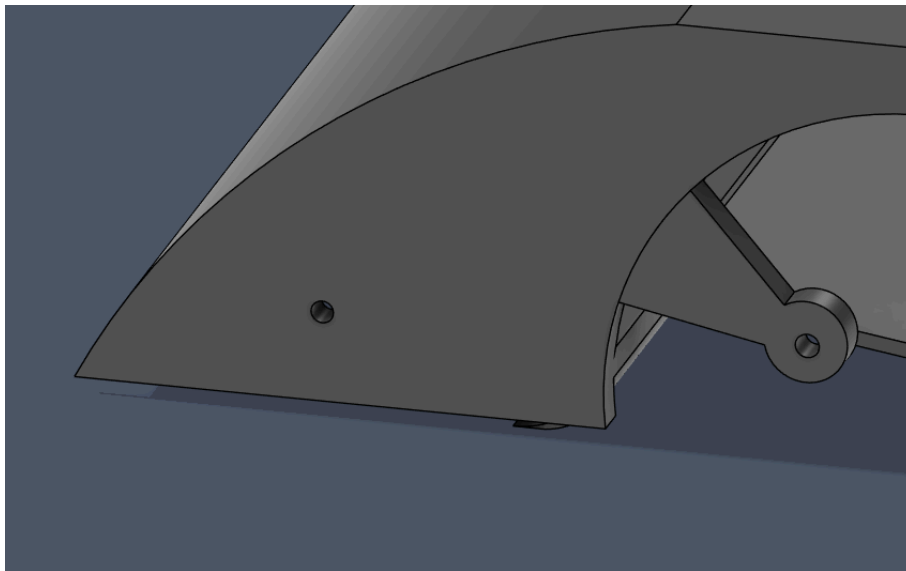

Figure G.3: Hood with bearing hole
1. Press a bearing into each first hole on the 3D-printed hood, with the flanged side facing outward on both sides, as shown in Figure G.3.